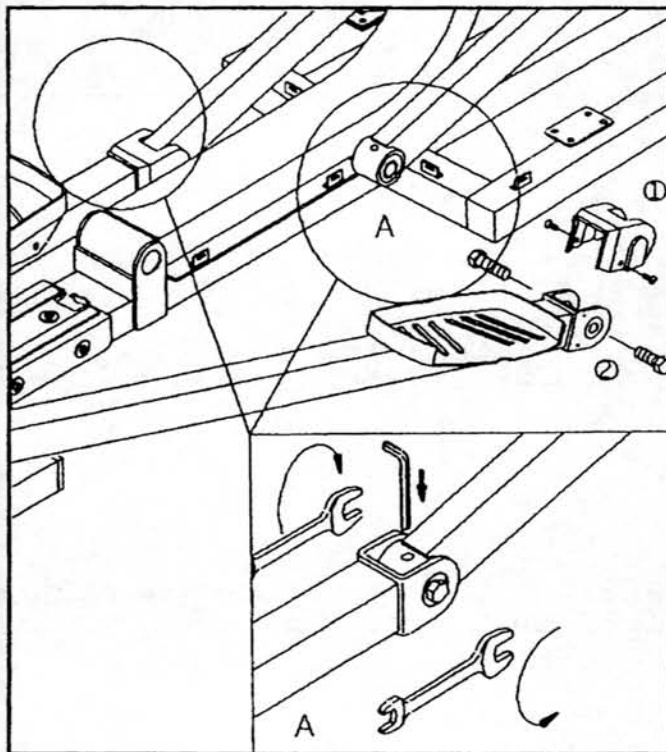

Fig.21-2
Secondly, remove the REAR HORIZONTAL LINKAGE from FRONT HORIZONTAL LINKAGE by unscrewing the screw. Using a Hex Allen Wrench to fix left side of screw and use another Wrench to turn off the screws from the LINKAGE in clockwise direction (see fig 21-2. ② and the enlarged fig A).